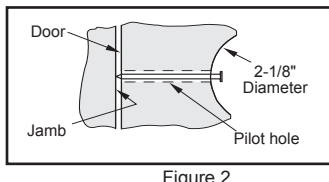

Figure 2.
- a. Drill 1/8" (3mm) diameter pilot holes: Drill holes through at the 2-1/8" (54mm) center locations and 2" (51mm) deep at door edge locations. b. Drill the 2-1/8" diameter holes about half way through door, then finish drilling from other side to prevent splintering. c. Mark location for strike plate holes in door jamb by closing door and pressing a 2" (51mm) common nail from inside 2-1/8" (54mm) hole through pilot hole until nail makes indentation in door jamb. (See fig. 2). d. Drill 1" (25mm) diameter holes in door jamb, drill hole a minimum of 1" (25mm) deep for deadbolt strike and 5/8" (16mm) deep for handleset strike. f. Drill hole or pilot hole for bottom of handle. On wood door, drill a 9/64" (3,6mm) diameter pilot hole 1" (25mm) deep. On a metal door, drill a 1/4" (6,3mm) diameter hole through the door. g. Trace face of latches in door edge and chisel out areas 5/32" (4mm) deep. No chiseling is required for round face (drive in) latches. h. For wood jamb, center each strike over appropriate hole in jamb and trace outline. Chisel out area 1/16" (1,6mm) deep for handleset strike, and 5/64" (2mm) deep for deadbolt strike. Adjust depths, if strike boxes were ordered. i. Place strikes on jamb and mark screw hole centers. Drill (2) 1/8" (3mm) diameter pilot screws holes a minimum of 1-1/2" (38mm) deep for handleset strike and drill (4) 9/64" (3,6mm) diameter pilot holes a minimum of 2-1/2" (64mm) deep for deadbolt strike. j. Continue by following steps A — I of INSTALLATION INSTRUCTIONS on reverse side.